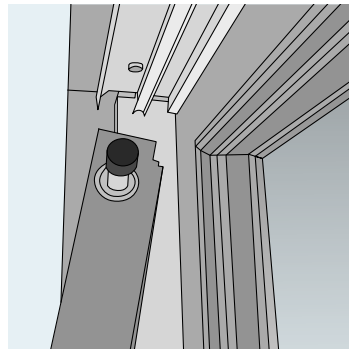

Figure 18
- a. Starting by placing the aluminium part in the top frame (figure 18, 19 and 20).